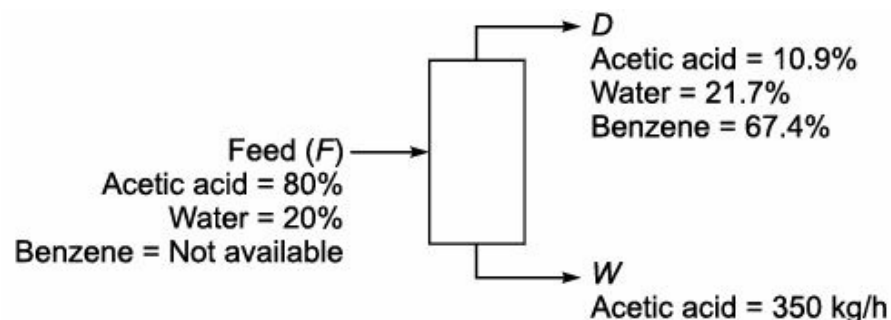

FIGURE E3.1 Continuous still.
- 3.3** A continuous still is to be used separate acetic acid, water and benzene. The data are given with Figure E3.1. The data recording the Benzene composition of the feed were not taken because of instrument defect. Calculate the benzene flow in feed per hour.